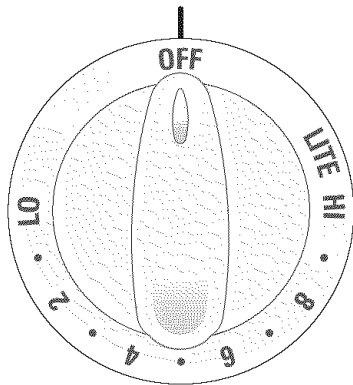

Figure 2
3. Release the knob and rotate to the LITE position (Figure 2). Note: All four electronic surface igniters will spark at the same time. However, only the burner you are turning on will ignite.